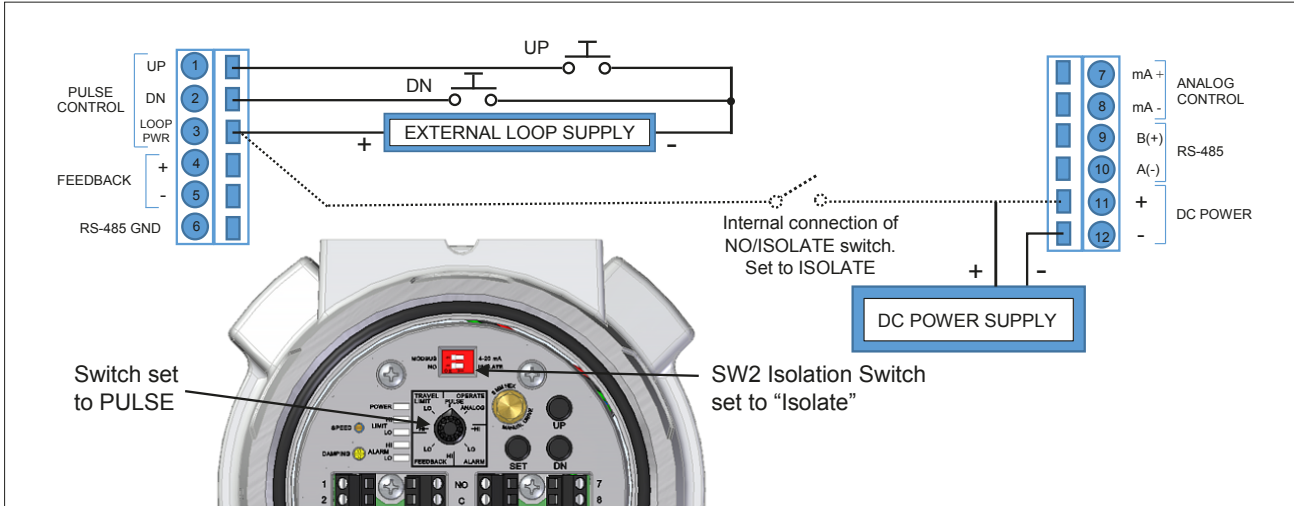

Figure 3 Electrically isolated pulse input control using an external loop supply
**SW2, Isolate:** The Pulse control inputs are isolated from the DC power supply providing power to the unit and must be powered from a separate external power source. (See *Figure 3*). This is useful for long runs of the control lines to eliminate ground loops with local power supply and control equipment.